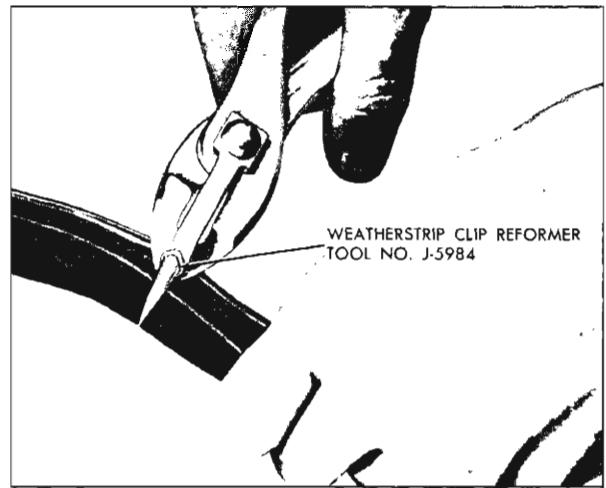

Fig. 12-6 Weatherstrip Clip Reforming Tool
- Check weatherstrip clips for proper contour and reform if necessary using tool J-5984 (Fig. 12-6).
- Check weatherstrip attaching clips for proper contour and, if necessary, re-form using tool J-5984 (Fig. 12-6).